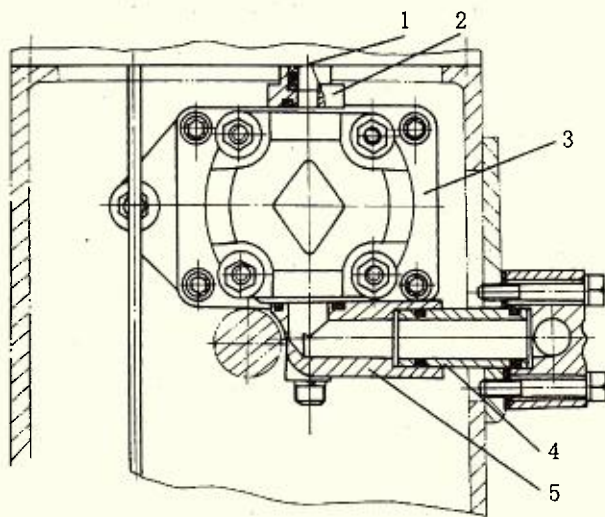

Fig. 24 - 1 Installing gear pump
Dismantle the front top cover on the rear axle casing and put a piece of copper sheet between the gear pump housing 3 and the oil outlet flange 2 (Fig. 24 - 1). After tightening the flange bolt, block up the oil outlet of the hydraulic pump, then decompress the engine and turn the crankshaft with hand. If be able to feel from light to heavy, the working pressure of the hydraulic pump is proper; if feel light all the time, the pressure is insufficient.
1) Oil inlet pipe assy. (front section) i. e. rubber pipe leaks air; the O-ring of the oil inlet connecting pipe (No. 4 in Fig. 24 - 1) is damaged; the O-ring of the oil suck in pipe joint (No. 5 in Fig 24 - 1) is damaged, aged and lack of precompression amount; the reinforced oil seal 13 of the hydraulic pump driving gear shaft is damaged or comes off, etc. (See Fig 16 - 10)
4) The O-ring of the hydraulic pump oil outlet flange 2 (Fig. 24 - 1) is damaged and the O-ring of the distributor oil inlet insertion pipe is damaged (Fig. 16 - 19).